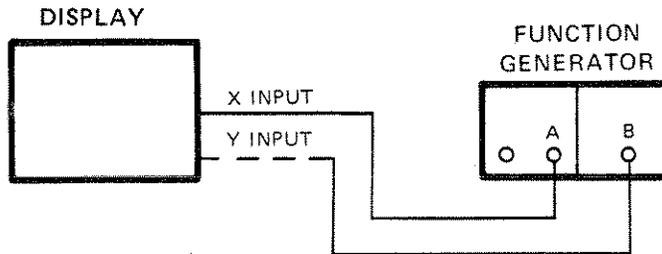

Figure 5-1. Pattern Adjustment Test Setup
- a. Connect equipment as shown in figure 5-1.